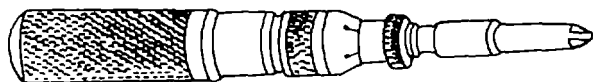

Figure 8-1. Preset Torque Screwdriver
(1) *Torque screwdriver.* The preset screwdriver, shown in figure 8-1, is preset to the desired torque. A device in the tool limits the applied torque to the preset torque by allowing the handle to turn free of the driven bit when the preset torque is reached.